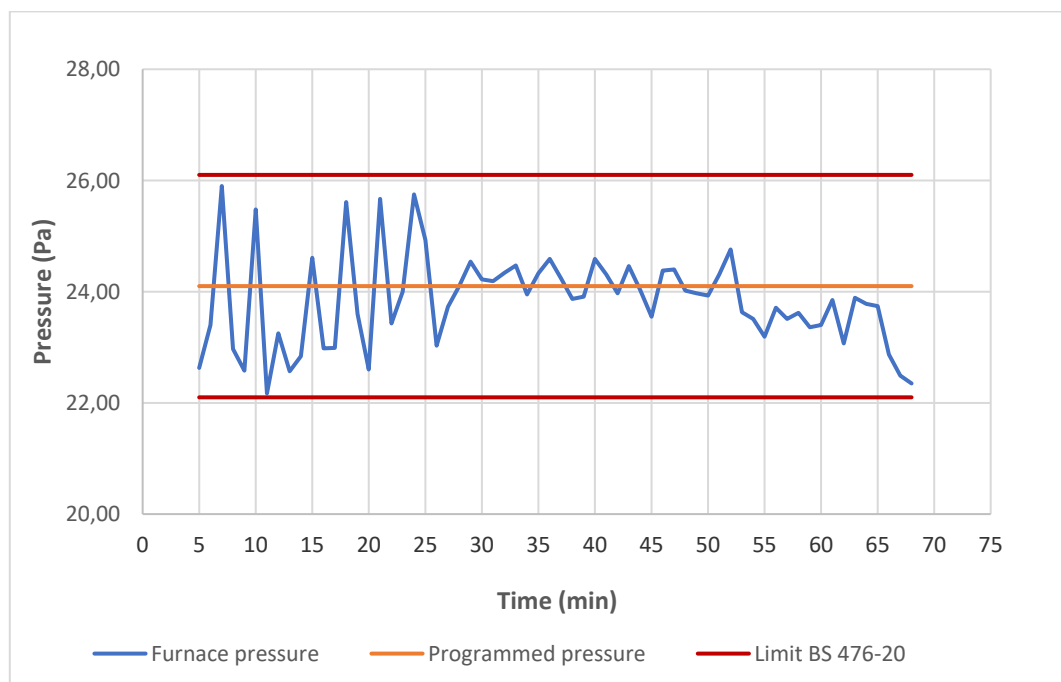

FIGURE 5
- 6.3 Figure 5 shows the pressure throughout the test and the limits stated in the BS 476-20:1987.